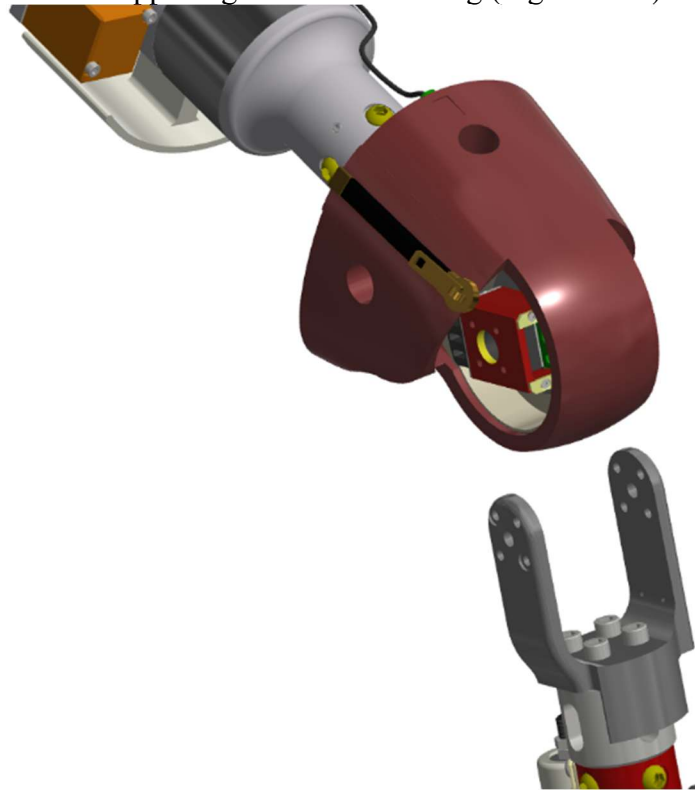

Figure 9-15. Separate the upper leg from the lower leg
9.2.8 Separate the upper leg from the lower leg (Figure 9-15).